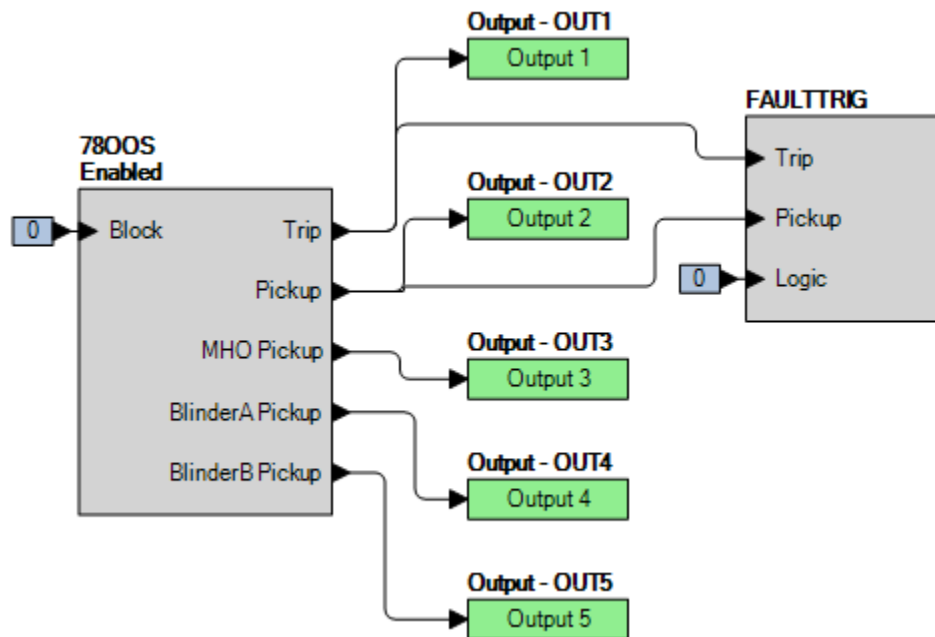

Figure 82-1. BESTlogicPlus Settings
Step 2: Use BESTCOMSPiplus to configure the BESTlogicPiplus programmable logic shown in Figure 82-1.
Step 3: Prepare to monitor the 78OOS function operation. Operation can be verified by monitoring OUT1, 2, 3, 4, and 5 (see Figure 82-1).
- Step 1: Use BESTCOMSPPlus to verify the operational settings in Table 82-1 and logic in Figure 82-1. Reset all targets.